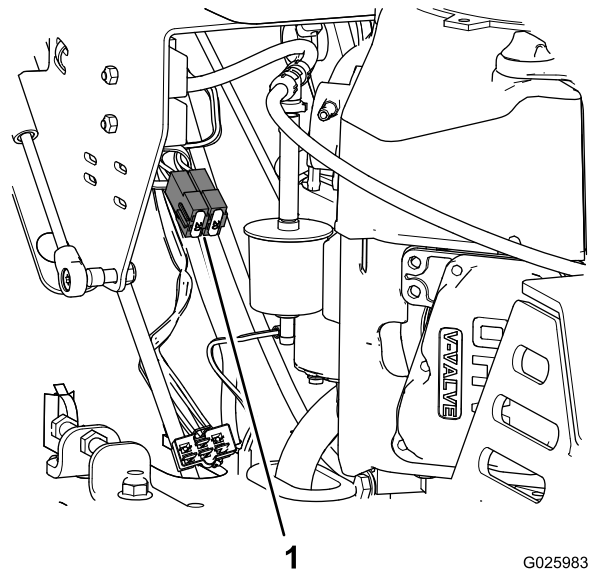

Figure 42
3. Pull the fuse from the socket of the fuse block (Figure 42).
4. Install a fuse of the same type and amperes into the socket of the fuse block (Figure 42).